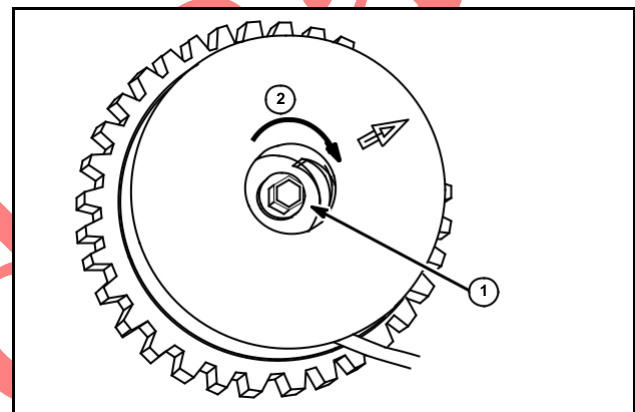

Fig. 23
5. Remove cover screw (1) by turning screw clockwise (2): left hand thread.
6. Remove screw and washer, Fig. 23.